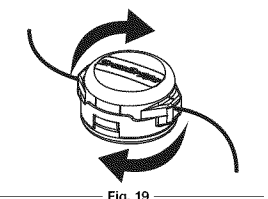

Fig. 19
3. Hold the cutting head knob and turn the cutting head clockwise to wind the line around the spool until 5 in. (12.7 cm) is protruding from each side of the cutting head (Fig. 19)